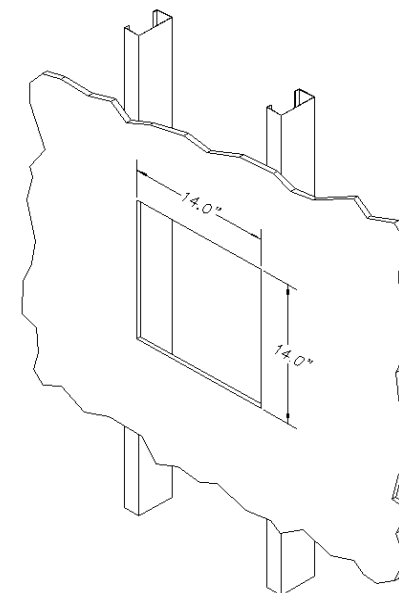

Figure 3 - Prepare wall or ceiling by cutting 14" X 14" opening.
Step 4 – To prepare the wall/ceiling for installation, cut a 14" X 14" square hole in the gypsum board (Reference Figure 3). The hole should be located centrally between two adjacent studs/joists. There must be a minimum of 4" of free space available behind the wall to allow for clearance of the enclosure.